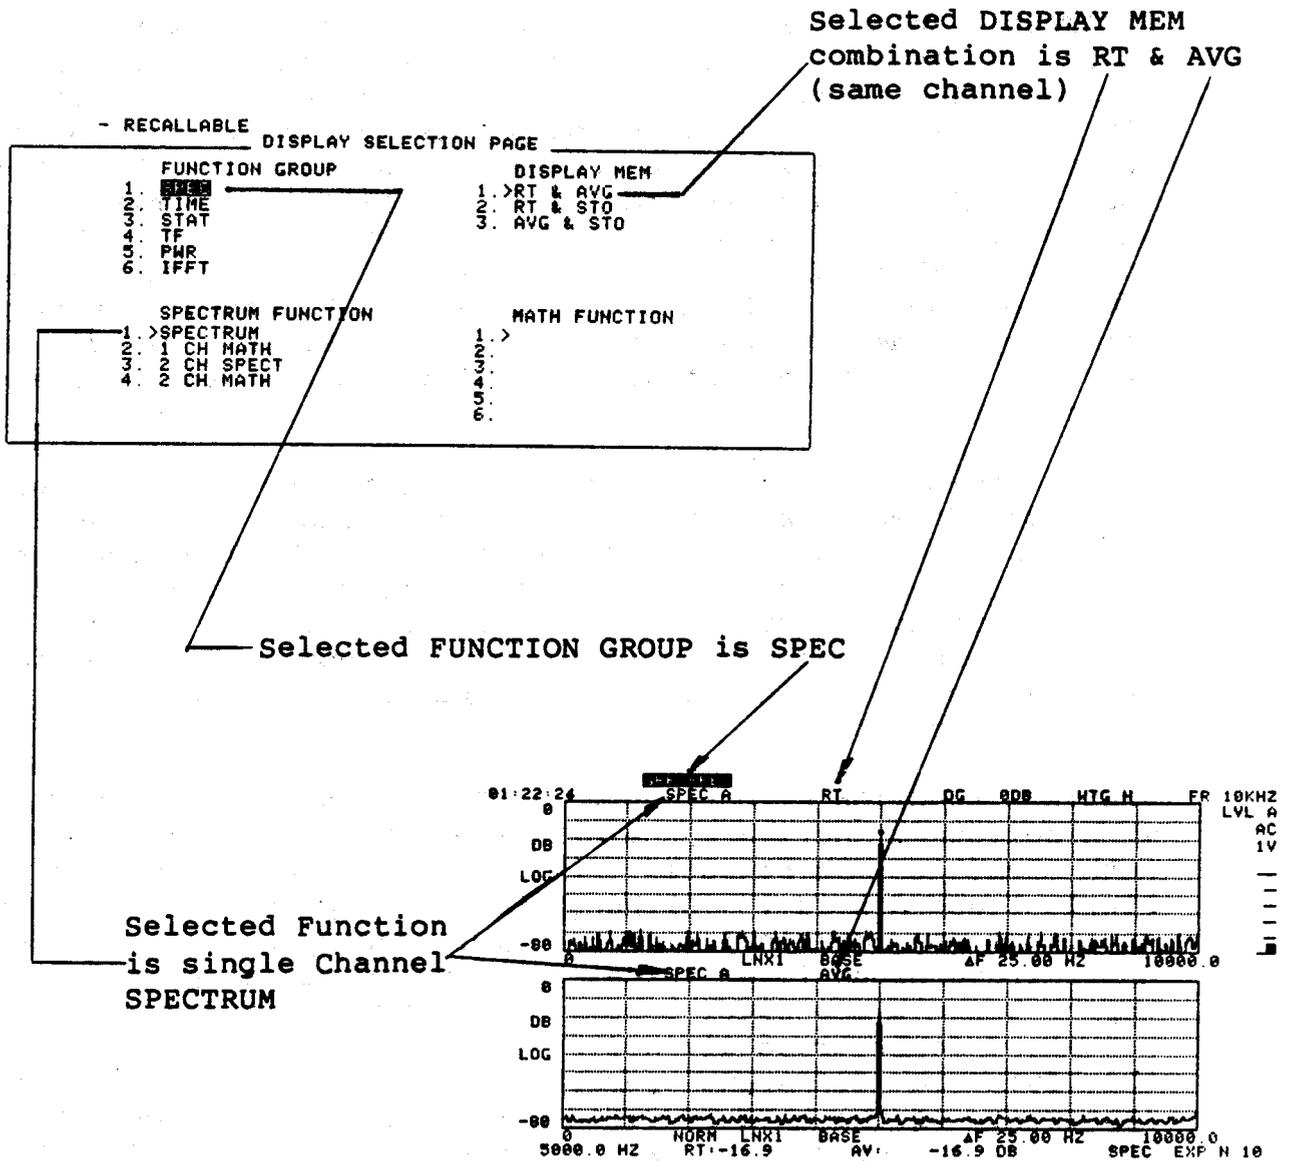

Figure 3-DISP-1. Operation of Setup Page 3 DISPLAY SELECTION PAGE
Operation of this setup page is slightly different than the other setup pages. Refer to Figure 3-DISP-1 and note that there are four separate menus and one RV. Selection within a menu, just as with previous menus, is accomplished using the SCROLL group UP/DOWN buttons. Moving the RV from one menu to another is accomplished using the SETUP group UP/DOWN and LEFT/RIGHT buttons. Also note in Figure 3-DISP-1 that on the three menus without the RV, there are pointers (actually they're "greater than" symbols) indicating the current selections on these menus. When the RV is moved from one menu to another, the RV will go to the selection with the pointer. In addition, these selections indicate what is actually being displayed. For example, the setup page and data display shown in Figure 3-DISP-1 indicates the following: The selected FUNCTION GROUP (primary function) is SPEC, the selected SPECTRUM FUNCTION is SPECTRUM (a single-channel function), the selected DISPLAY MEM is RT & AVG, a dual display (same channel) of the contents of the Input Memory (RT) and the Average Memory (AVG).
As previously noted, the example is a dual trace display allowing you to view the contents of the two selected memories simultaneously. Display trace selection is accomplished using the SEL TRACE button located in the SCROLL group. Located just to the left of the SEL TRACE button are two LED's. These LED's indicate the display trace format. If both LED's are lit, a dual display format is selected. If just the upper LED is lit, the display example in Figure 3-DISP-1 would be a single trace display of the contents of the Input Memory (RT) only. If just the lower LED is lit, the example would be a single trace display of the contents of the Average Memory (AVG) only.